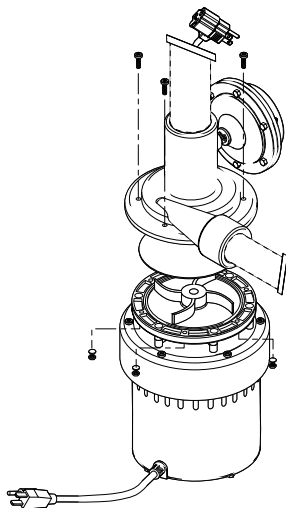

Figure 4: Remove 6 housing screws to clean out pump
- Remove the six housing screws (see Figure 4).